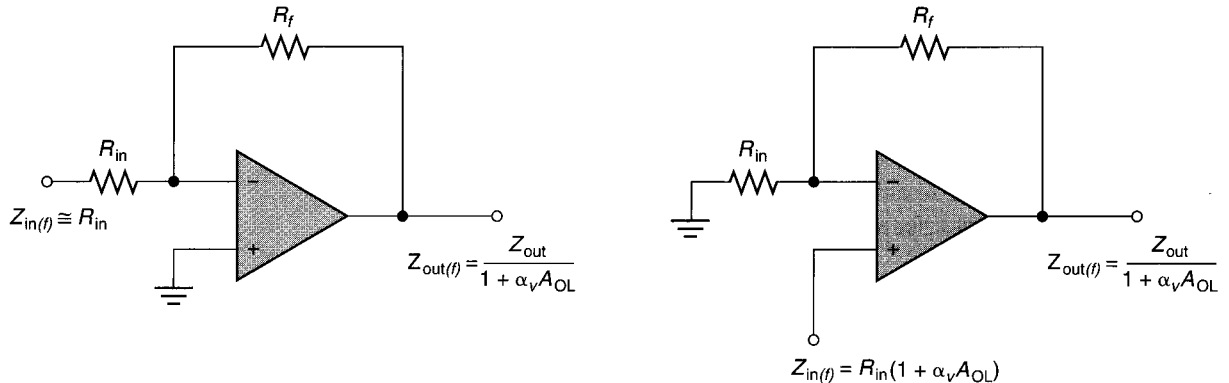

FIGURE 15.49 Amplifier input and output impedance.
**OBJECTIVE 17** ► The input and output impedance values for inverting and noninverting amplifiers are calculated as shown in Figure 15.49. For the inverting amplifier, the presence of the *virtual ground* at the inverting input results in the amplifier input impedance being approximately equal to the value of the input resistor ( $R_{in}$ ). This point was discussed earlier in the chapter.
As you can see, the feedback network has greatly reduced the effective output impedance of the op-amp. Again, this is an added benefit of using negative feedback. With the lower output impedance, the circuit is much better suited to driving low-impedance loads. If you refer to Figure 15.49, you'll see that the use of negative feedback has the same effect on the output impedance of an *inverting* amplifier as it has on the output impedance of a noninverting amplifier.